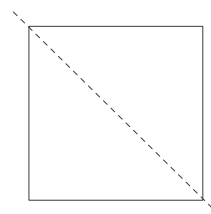

FIG 1
- (1) $13\frac{1}{2}$ " x $13\frac{1}{2}$ " for Corner B, cut once diagonally (Fig 1)
- (2) $13\frac{1}{4}$ " x $8\frac{1}{4}$ " for BG-C